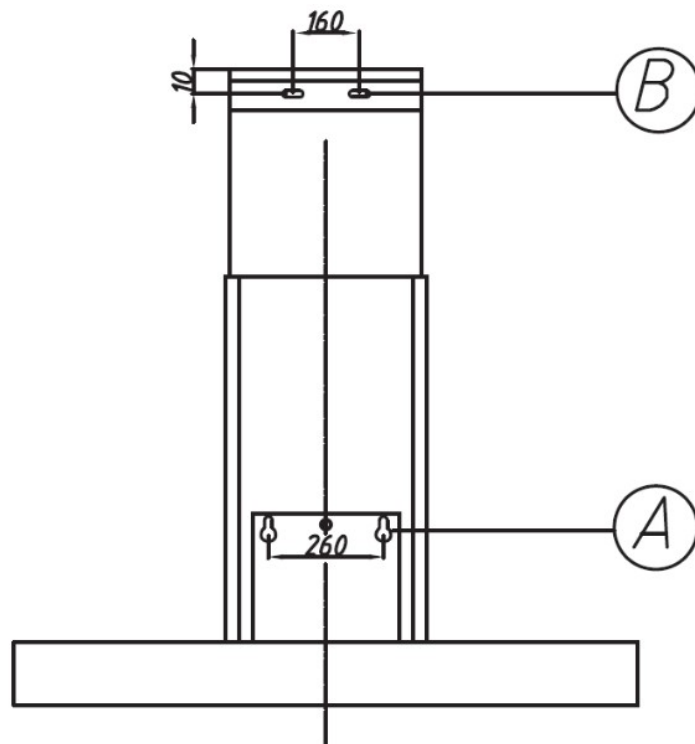

Fig 1.
1. At the two range hood mounting points marked in H (refer to page 4), drill a small pilot hole using a Ø6 drill bit, to a depth of approximately 40mm. After drilling, the distance between two mounting holes should be 260mm shown as A in Fig 1. below.
1. At the two flue bracket mounting points marked in J (refer to page 4), drill a small pilot hole using a 6mm drill bit, to a depth of approximately 40mm. After drilling, the distance between two mounting holes should be 160mm as indicated as B in above Fig. 1 (refer to page 5).